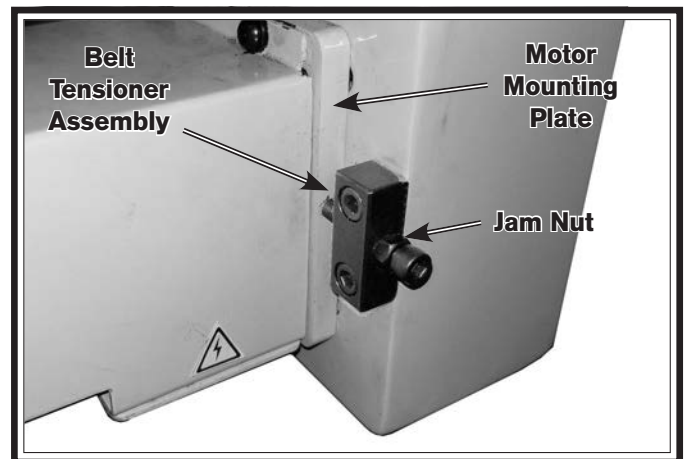

Figure 53. X-axis drive belt tensioner.
9. Adjust belt tensioner (see **Figure 53**) loosen belt.